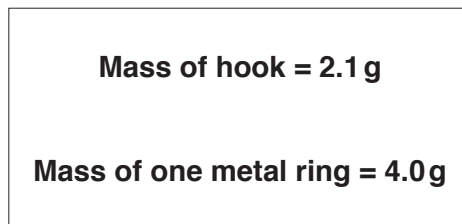

Fig. 1.4
- 3 An example of the information card is shown in Fig. 1.4.